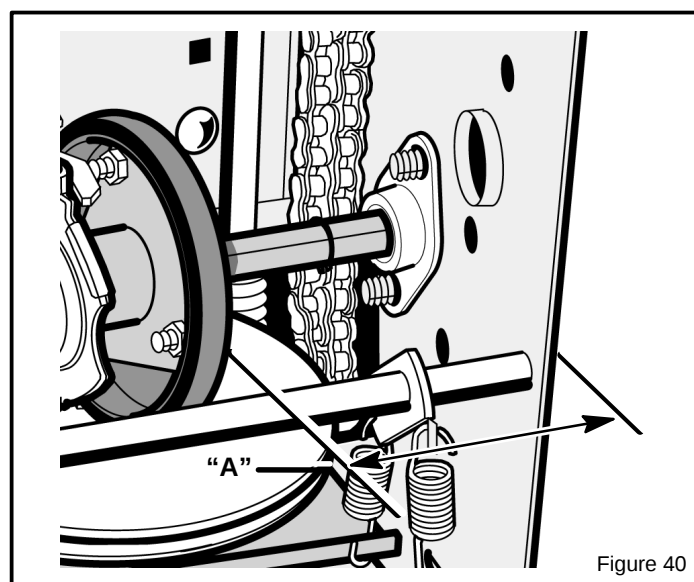

Figure 40
6. Note the position of the **friction wheel** (see Figure 40). The correct distance "**A**" from the right side of the **friction wheel** to the outside of the motorbox is as follows:
3. Move the **friction wheel** to the correct position (see Figure 40).